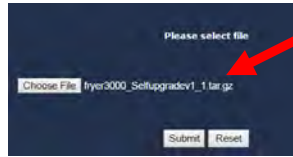

Figure 11
11. Once the file is displayed click Submit (see Figure 11) to load the software.